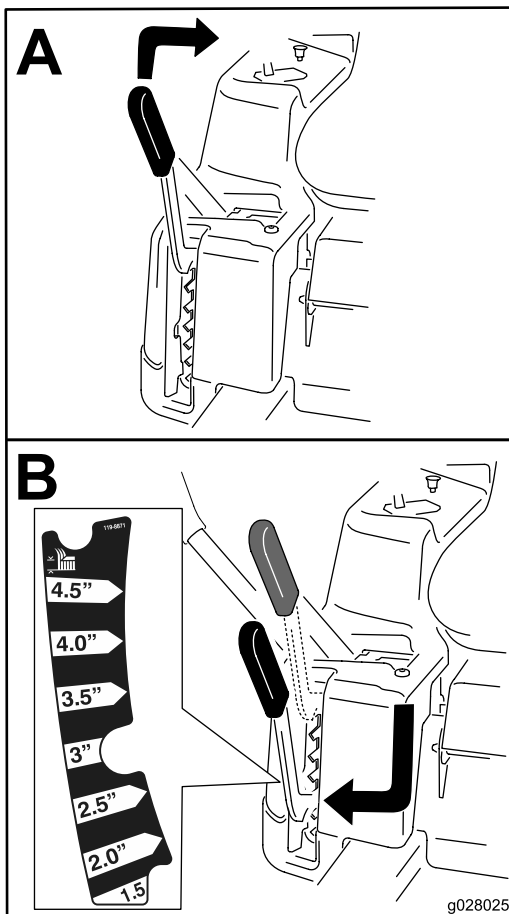

Figure 26
**Note:** The transport position is the highest height-of-cut position or cutting height at 115 mm (4-1/2 inches) as shown in Figure 26.
Height of cut is controlled by the lever located to the right of the operating position (Figure 26).